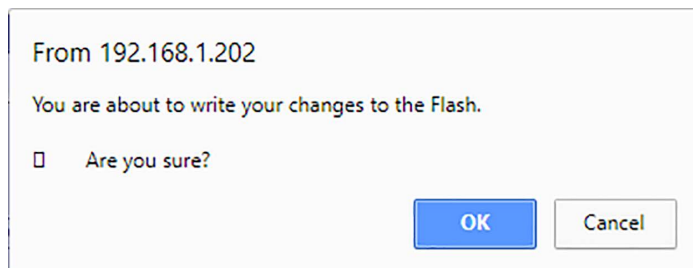

Figure 5-35 - Download Setup File
5. To download an XML file containing all of the settings defined on the Setup page to the local machine, click **Download Setup to PC**. The following dialog appears (see Figure 5-35):